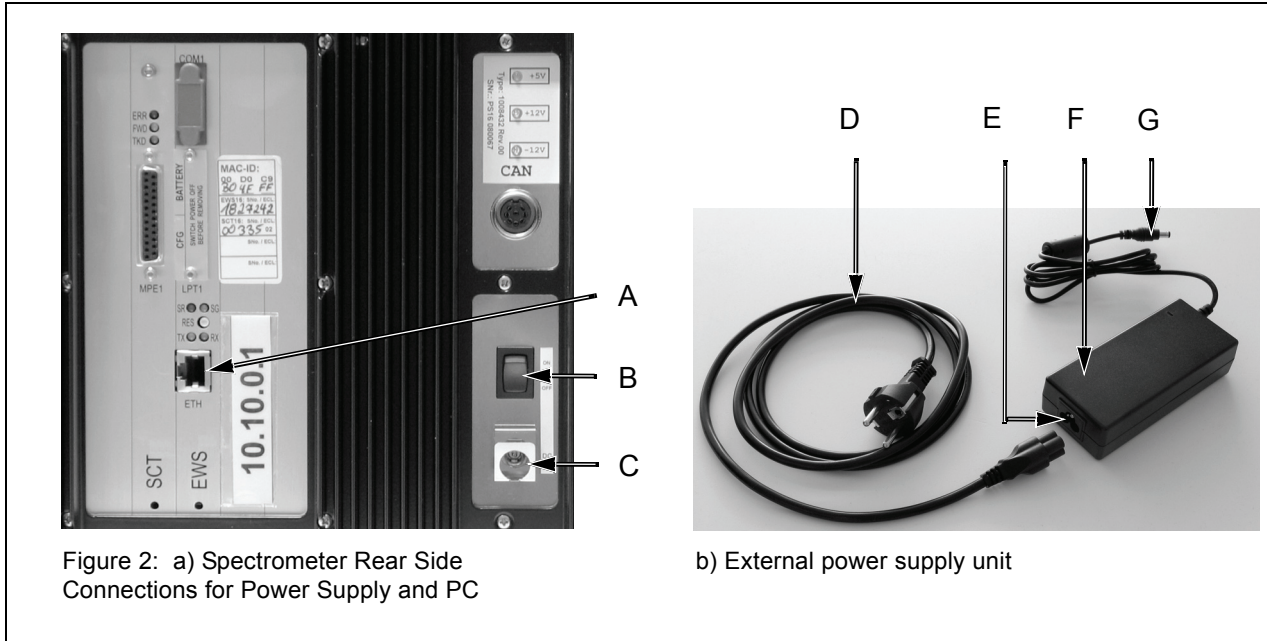

Fig. 2	Component
- 1 First make sure that the spectrometer is switched off. Check the setting of the on/off switch (B in fig. 2).
- 2 Connect the low-voltage cable (G in fig. 2) to the low-voltage socket (C in fig. 2) at the spectrometer rear side.
- 3 Connect the power cord (D in fig. 2) to the C5 connector of the external power supply unit (E in fig. 2).
- 1 Connect the supplied crossover data cable to the Ethernet port at the spectrometer rear side (A in fig. 2) and to the OPTIC CONNECTOR (fig. 4) at the PC rear side.
- 2 **Spectrometer:** Connect one straight through data cable to the Ethernet port at the spectrometer rear side (A in fig. 2) and to the network hub.
- 2 **Spectrometer:** Connect the supplied crossover data cable to the Ethernet port at the spectrometer rear side (A in fig. 2) and to the OPTIC CONNECTOR (fig. 6) at the PC rear side.